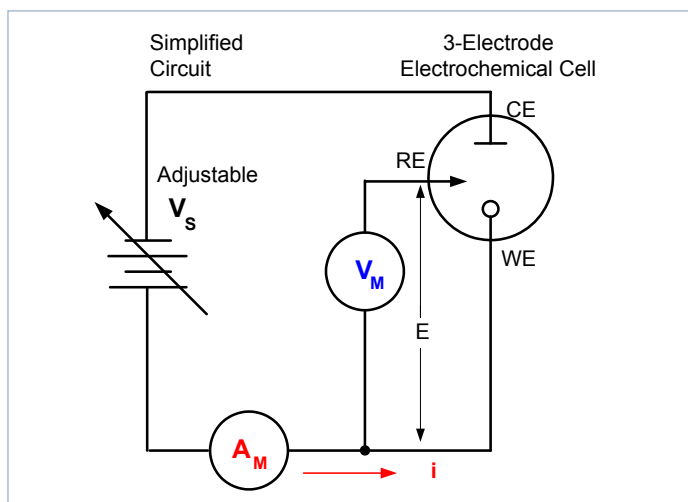

Figure 2. Simplified measurement circuit for performing cyclic voltammetry.
Figure 2 illustrates a typical electrochemical measurement circuit made up of an electrochemical cell, an adjustable voltage source (V_s), an ammeter (A_M), and a voltmeter (V_M). The three electrodes of the electrochemical cell are the working electrode (WE), reference electrode (RE), and the counter (or auxiliary) electrode (CE). The voltage source (V_s) for the potential scan is applied between the working electrode and the counter electrode. The potential (E) between the reference electrode and the working electrode is measured with the voltmeter, and the overall voltage (V_s) is adjusted to maintain the desired potential at the working electrode with respect to the reference electrode. The resulting current (i) flowing to or from the working electrode is measured with the ammeter (A_M). This process is usually repeated for a range of E .